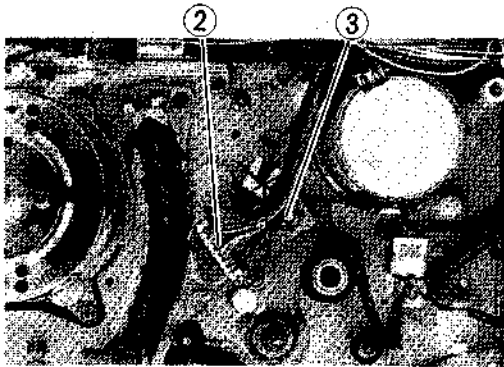

Fig. 5 AC Head
3. A/C (Audio/Control) Head (Figs. 5 and 6)